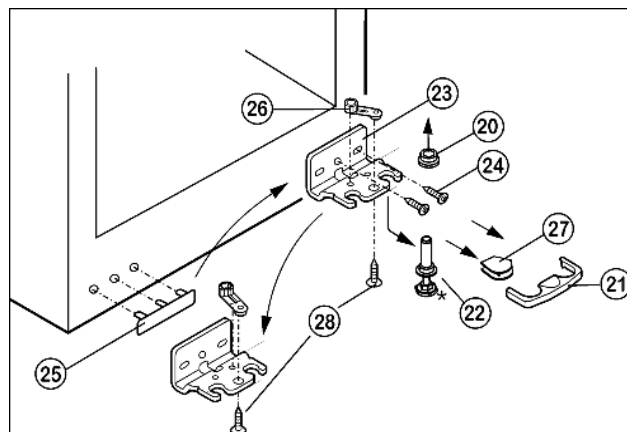

Fig. 5
- ▶ Draw the safety lock Fig. 5 (21) forwards for removal.
- ▶ Remove the cover Fig. 5 (27).*
- ▶ Fully retract the adjustable-height foot Fig. 5 (22).
- ▶ Pull out the bearing pin Fig. 5 (22) downwards and forwards. In so doing, pay attention to the hinge bush Fig. 5 (20).
- ▶ Unscrew the turn hinge Fig. 5 (23) (2 Torx 25) Fig. 5 (24).
- ▶ Unscrew the bearing part Fig. 5 (26) (1 Torx 25), Fig. 5 (28), transfer it to the opposite hole in the turn hinge and screw it down again.
- ▶ Carefully lift off and transfer the cover Fig. 5 (25) on the handle side.
- ▶ Screw down the turn hinge Fig. 5 (23) on the new hinge side, possibly with the aid of a cordless screwdriver, through the outer oblong hole and round hole.
- ▶ Place the cover Fig. 5 (27) on the opposite side.*
- ▶ Transfer the middle screw on the lower turn hinge Fig. 5 (23) into the free oblong hole.
- ▶ Align the door to the appliance housing by way of the two oblong holes in the lower turn hinge Fig. 5 (23).
- ▶ The safety lock (21) has to engage with the turn hinge at the side so that the bearing pin and therefore the door are secured.
- ▶ Snap the safety lock (21) onto the turn hinge again.
- ▶ Put on the hinge bush Fig. 5 (20).
- ▶ Place the door from above onto the lower bearing pin Fig. 5 (22).